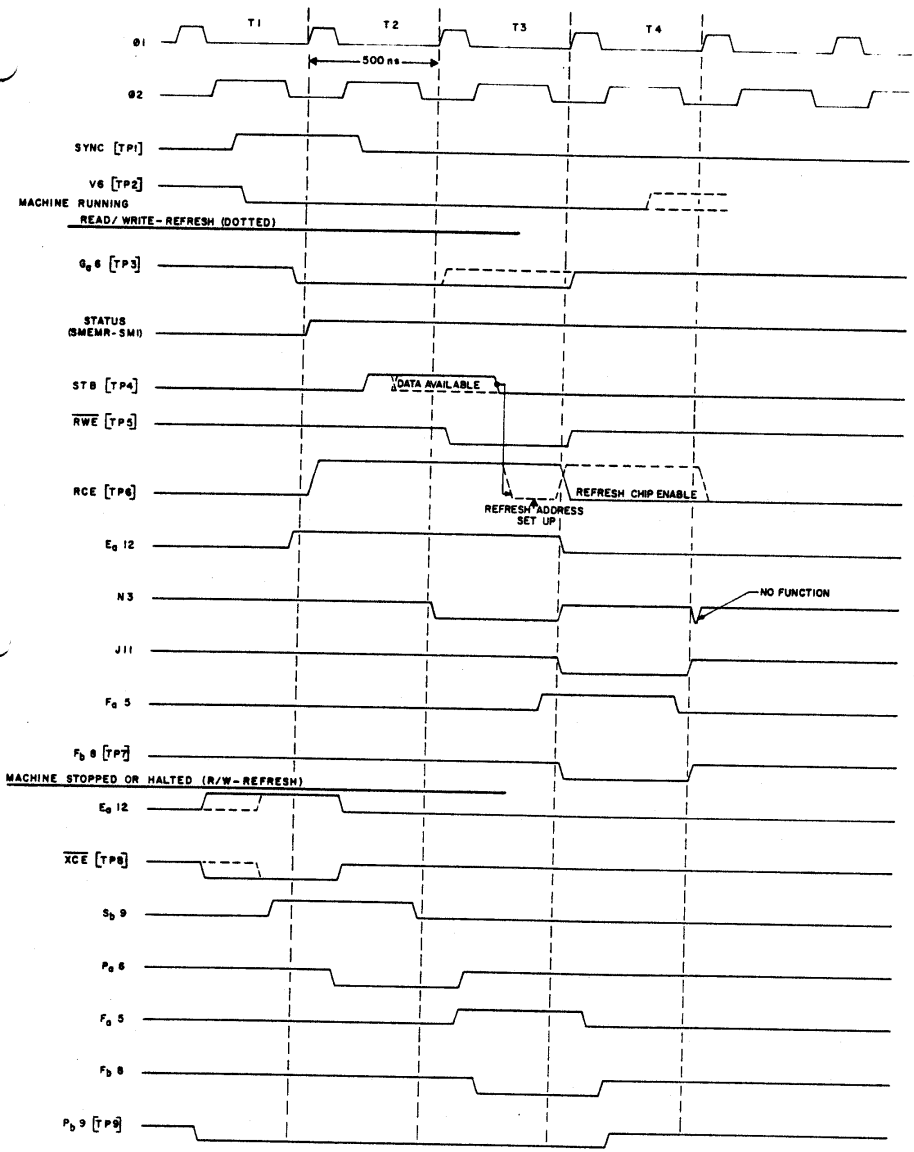

Figure 3-9. 88-S4K Timing Diagram
The first step in troubleshooting is identifying the problem. Schematic diagrams (Figure 2-2), waveforms (Figures 3-1 through 3-8) and timing diagram (Figure 3-9) should be used in isolating components or assembly errors that are possibly causing problems in the circuit.
3. CC13 (sheet 2, zone B5) goes HIGH and CC12 LOW, when F5 (zone C2) is HIGH (refer to Timing Diagram, Figure 3-9).